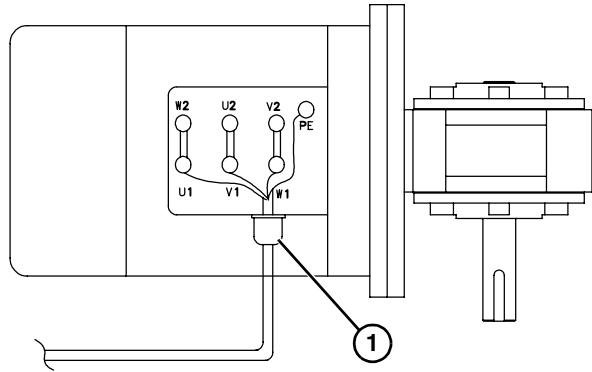

Figure 25
- b. Record wire colors on terminals U1, V1, W1 and PE (Figure 25). Loosen terminals U1, V1, W1 and PE and remove wires.
- c. Loosen cord grip (Figure 25, item 1) and remove cord.